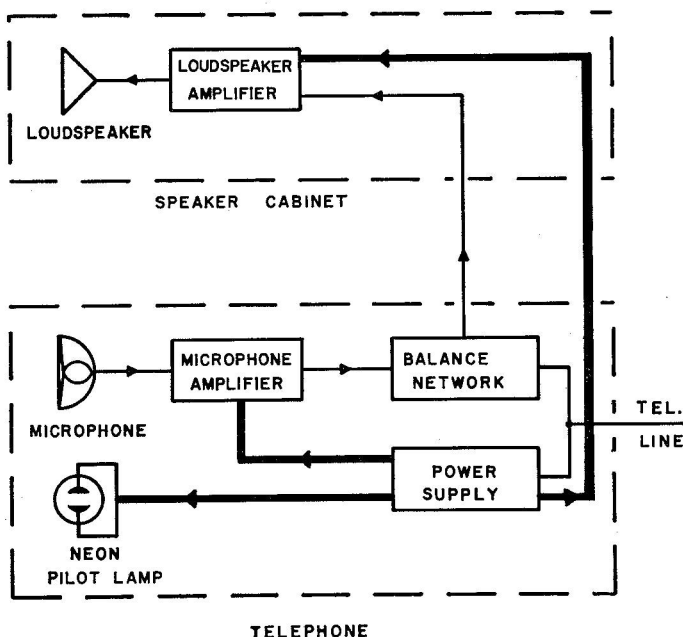

Figure 13. Block-diagram—loud-speaking operation.
Figure 13 illustrates the loud-speaking operation. When the subscriber using the *Loud-Speaking Telephone* speaks, his voice is picked up by the microphone, amplified by the *transistor microphone amplifier*, and connected thru the balance network out on the telephone line to the distant subscriber.
6.1 Balance network. The purpose of the balance network (figure 13) is to couple the microphone amplifier and loudspeaker amplifier, but keep the coupling between the microphone amplifier and loudspeaker amplifier at a minimum.